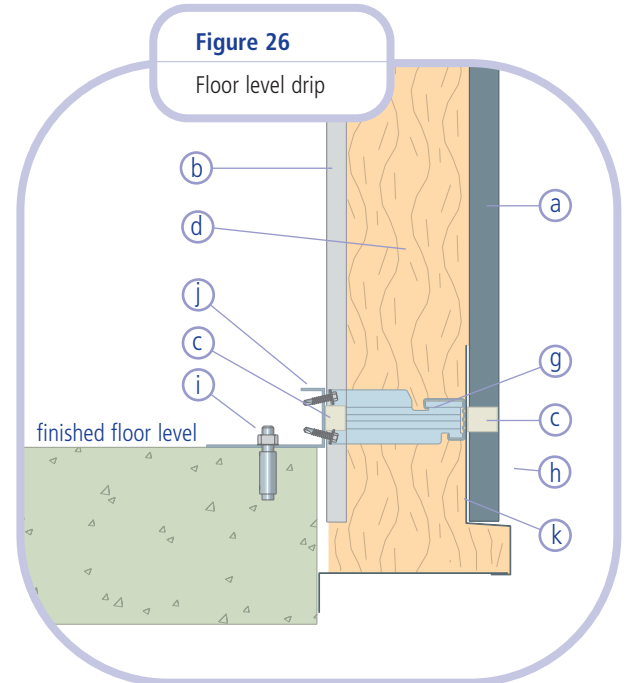

**Figure 25**
**Key to figures 25, 26 & 27**